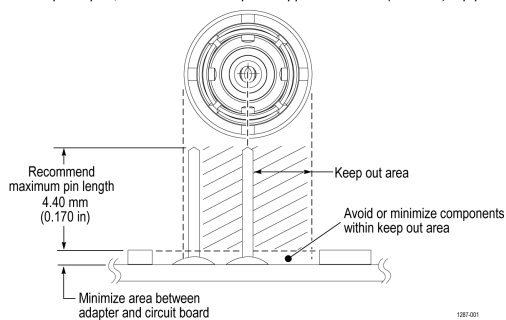

Figure 20: Adapter clearance requirements
The solder pins can be installed around a surface mounted component on the circuit board, but adequate clearance should be maintained for a good electrical connection for the adapter. Figure 20: Adapter clearance requirements on page 42
3. If necessary apply a small amount of adhesive to further strengthen the connection to the circuit board. However, keep the height of the adhesive to a minimum to provide good electrical contact for the adapter. Figure 20: Adapter clearance requirements on page 42